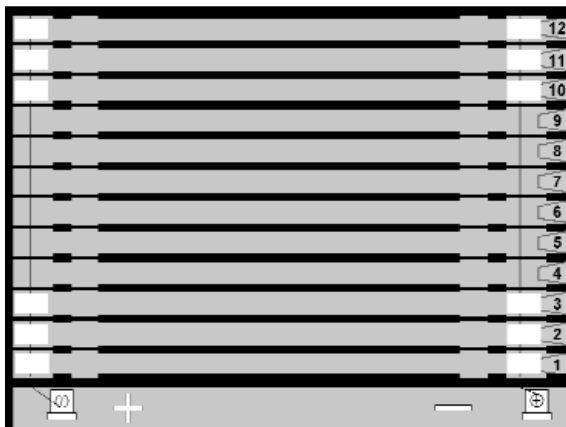

Fig. 5. Placement of paper wicks over electrode at each end of channel.
- 2 Using forceps, place a paper wick at both ends of the channels covering the wire electrodes. Use channels with the same numbers as those used during rehydration. As shown in Figure 5, channel numbers 1, 2, 3, 10, 11, and 12 contain electrode wicks.